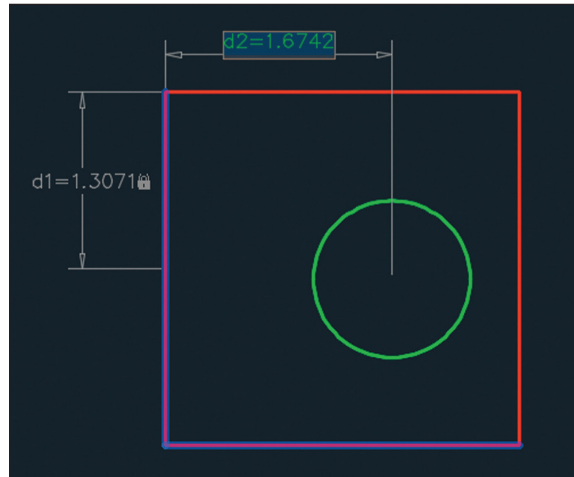

FIGURE 12.6 Creating a horizontal linear dimensional constraint
4. Click the Linear constraint tool in the Dimensional panel, and click the first constraint point in the upper-left corner of the rectangle. Click the circle to accept its center as the second constraint point. Move the cursor upward and click to place the horizontal dimension line above the rectangle (see Figure 12.6). Move on to step 5 without pressing Enter.